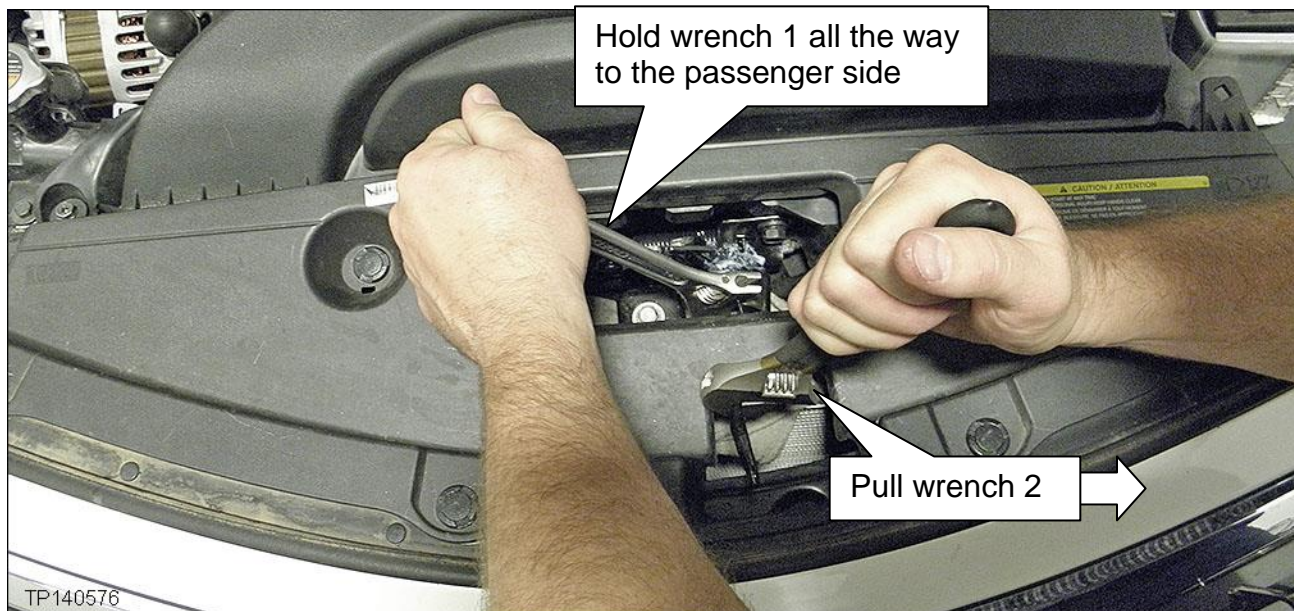

Figure 16
19. Recheck the height of the secondary hood latch lever as follows (see Figure 16):